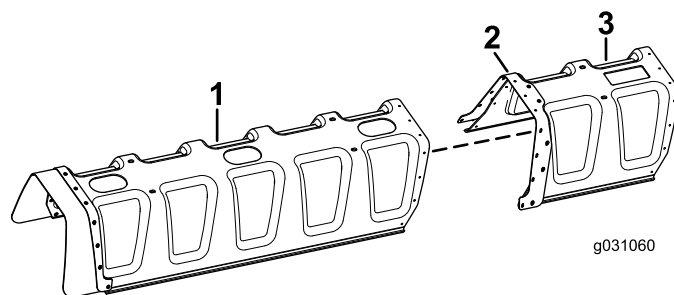

Figure 5
- Align the holes on the 11-nozzle boom cover with the holes on the reinforcement plate attached to the 12-nozzle boom cover (Figure 5).